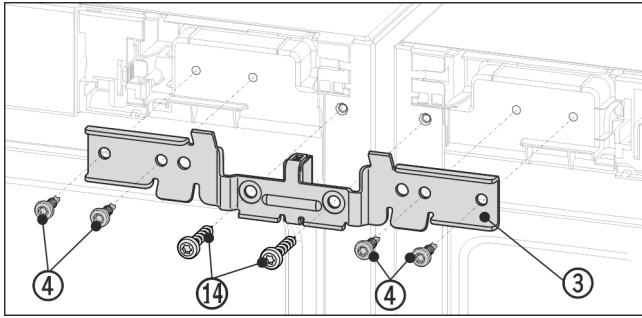

Fig. 10 Example illustration
- Slide the bracket Fig. 10 (3) onto the pins with the spacer between the appliances. Loosely screw in the brackets alternately right and left with four screws Fig. 10 (4) and the previously removed earthing screws Fig. 10 (14).